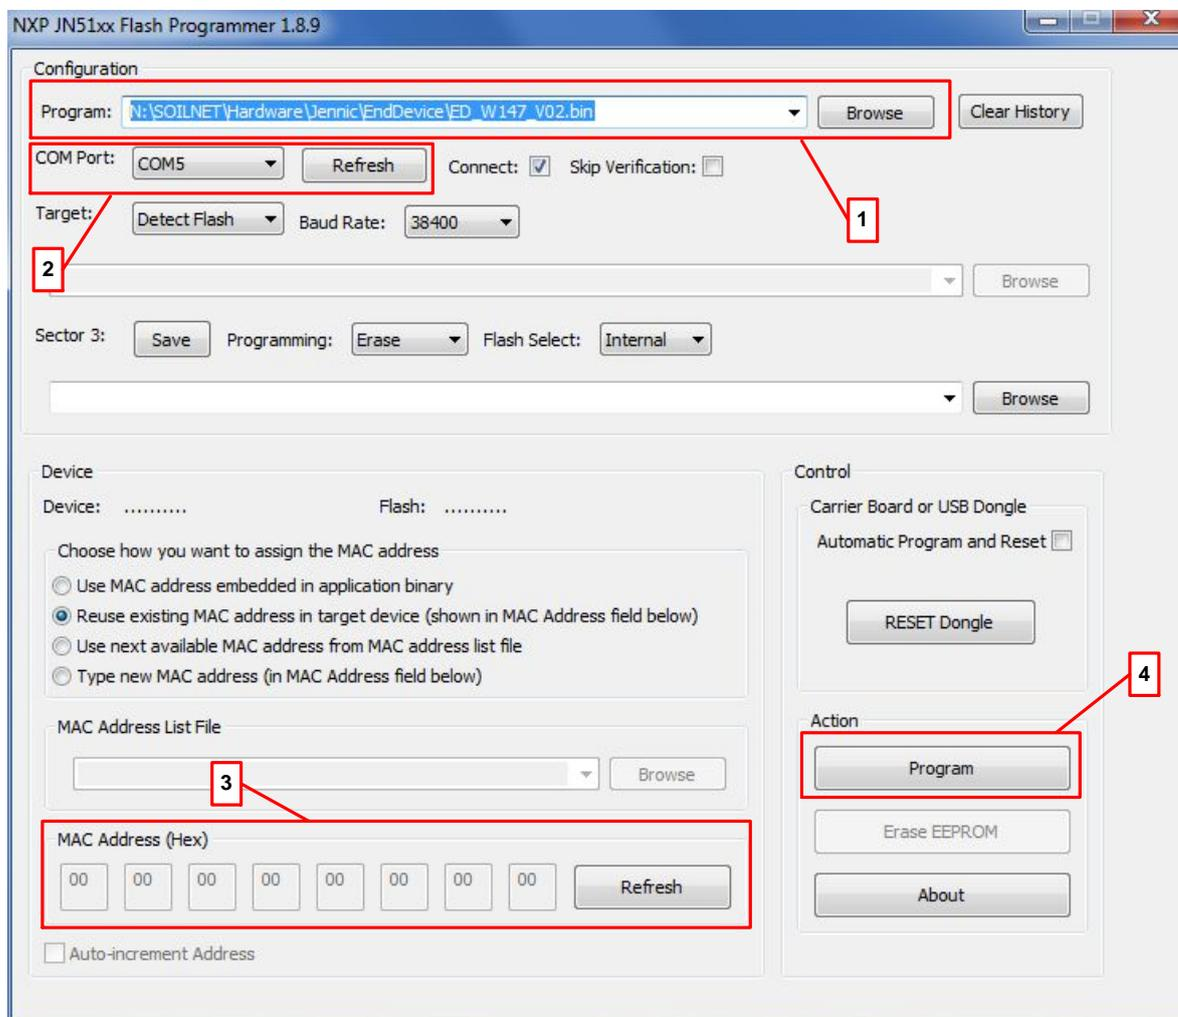

Figure 26: Jennic Flash Tool
- In the Flash software you’ll find under “Configuration” a dropdown field called COM port (see “2” in figure 26). Here you have to insert the number of the virtual COM port you’ve found in the device manager above. Make sure, the End Device is in program state already, otherwise the flash program will reply an error.
- In the Configuration tab you’ll find a field “Program” where you can browse your actual *.bin file (see “1” in figure 26).
- You may press the “Refresh” button (see “3” in figure 26) to verify the correct recognized MAC Adress of the Jennic module.
- Press the “Program” button (see “4” in figure 26) and wait for the transmission of the file and its verifying.